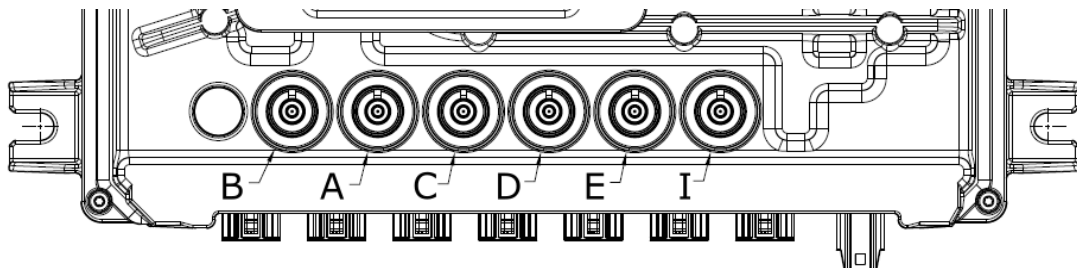

Figure 4: FAKRA connector order and coding
- Connect the antenna to the DUT; antenna connector on the DUT is beige (coding I, see Figure 4 for position).
- Connect the antenna to the DUT; antenna connector on the DUT is white (coding B, see Figure 4 for position).